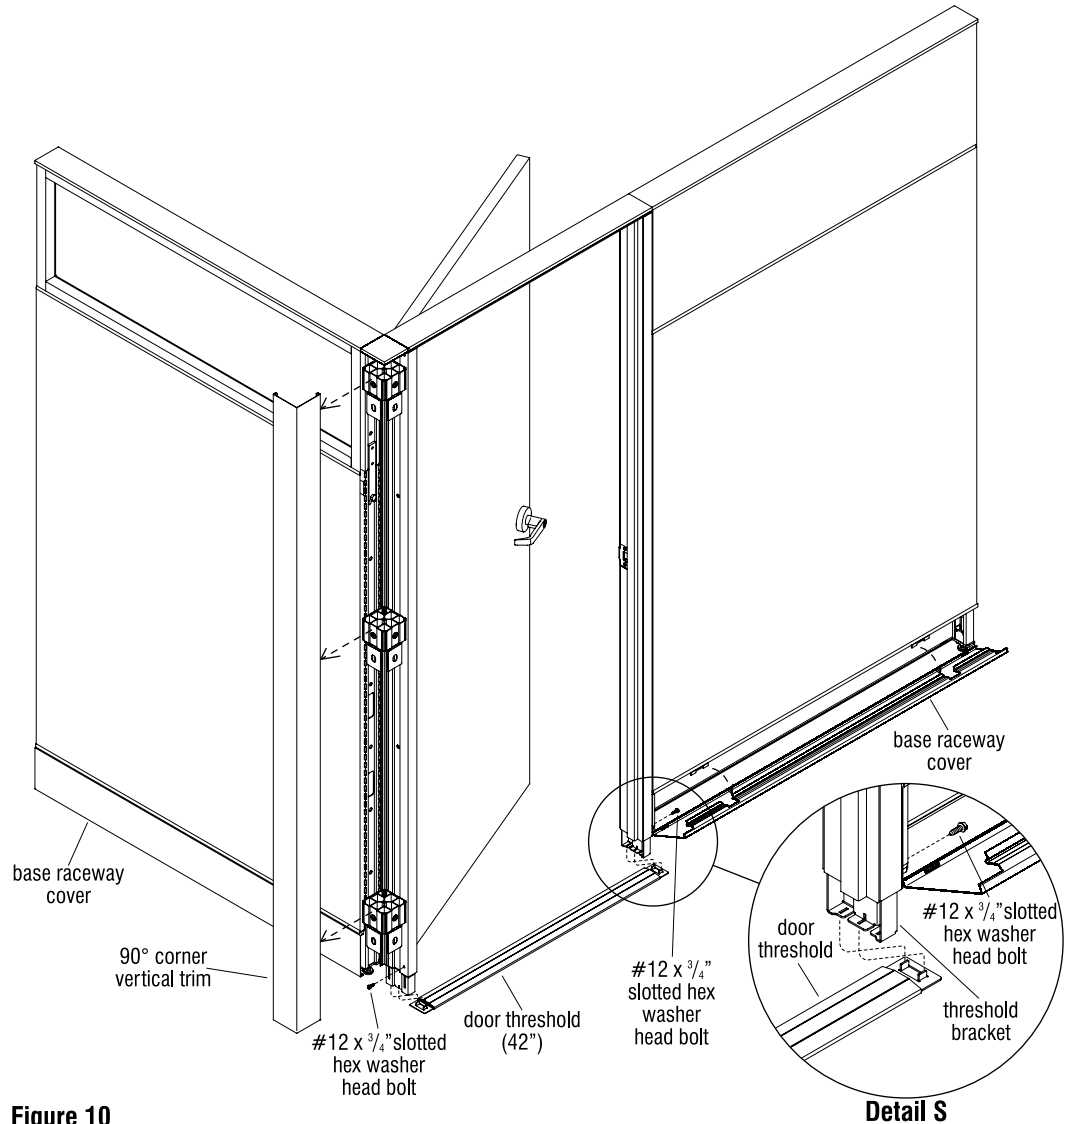

Figure 10
25. Begin threshold installation by first removing the 90° corner vertical trim from the hinge side, then flip open the base raceway cover from the panel frame adjacent to the latch side (Figure 10).
26. Locate the previously installed threshold brackets at the bottom of the vertical frame posts (see Figure 1) and remove the retaining screw (#12 x 3/4" slotted hex washer head bolt) at each threshold bracket (Figure 10).
27. Position the door threshold as illustrated, onto the floor and outside of the door frame area. Noting the side of the door frame that the door is installed to, identify this side of the door frame as the "closed-door side". The door threshold must be installed under both door posts, and be off-center to the closed-door side. With the door threshold on the floor near the door posts, use a prybar or screwdriver to assist and carefully lift up each threshold bracket and slide both ends of the door threshold under the door posts such that the door threshold tabs nest into the slots, off-center and under the closed-door side of both door frame posts (Detail S). Then allow each threshold bracket to slide down, so the closed-door side slots of both threshold brackets nest into the tabs on the door threshold at each side (Figure 10 & Detail S).
28. After both threshold brackets have dropped down and are nested over the tabs on each end, re-insert and tighten the #12 x 3/4" slotted hex washer head thread-cutting screw into the hole on backside of each vertical door frame post to lock the threshold in place (Figure 10 & Detail S).